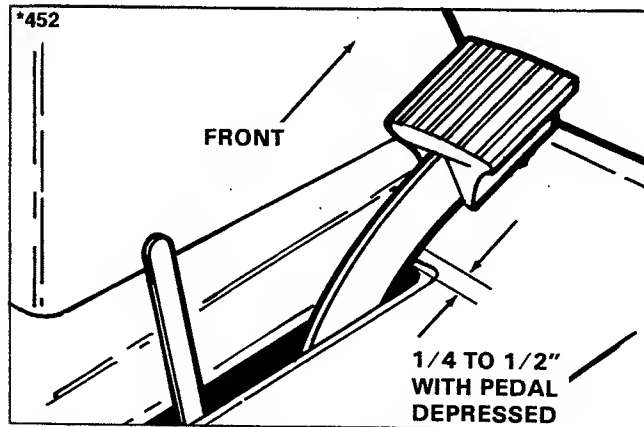

Figure 12. Clutch-Brake Adjustment
1. Press the pedal down as far as it will go (use normal braking force). There should be 1/4 inch to 1/2 inch clearance between the brake pedal and the front edge of the slot (see figure 12). If not, adjust the locknut (A, figure 13) by turning with a wrench. Move the locknut toward the rear to increase clearance or toward front to decrease clearance. Press the pedal down to recheck clearance. When correct, go on to step 2.